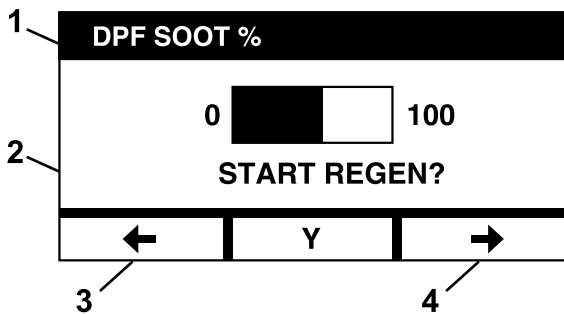

Figure 15
- E. Select Y (yes) from the Start Regen screen to confirm the regeneration process (Figure 15).